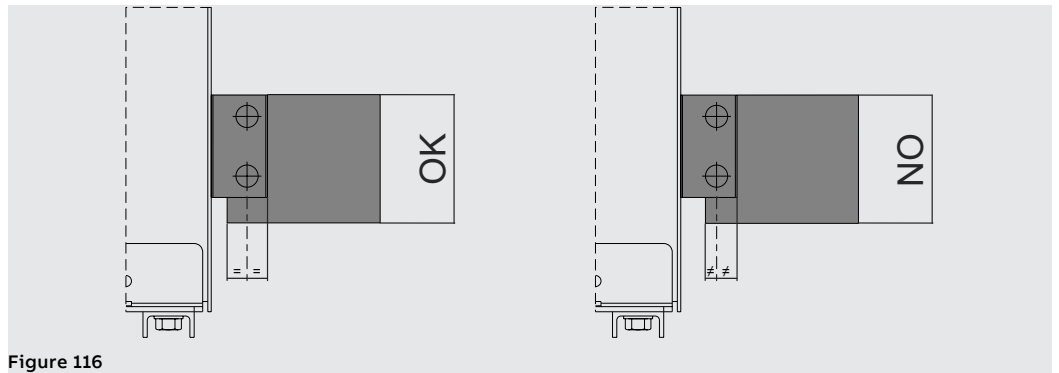

Figure 116
- Make sure that the distance between the holes and the end of the terminal and between the holes and extremity of the busbar is the same. See the example Figure 116.